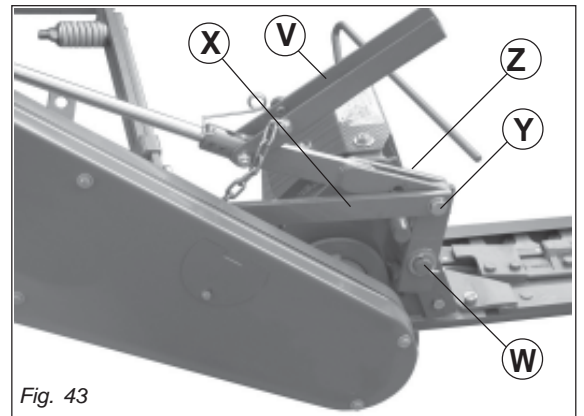

Fig. 43
For mowing on sloping ground, disable the lifting (V) device as shown in Figure 43 and couple the lever (W) with tie rod (Z) and the rod (X) in position (Y) as shown in Figure 43.